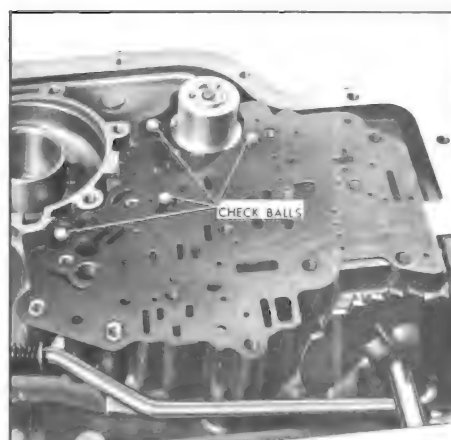

Figure 5-523
8. Remove four (4) check balls from cored passages in transmission case. See Figure 5-523.